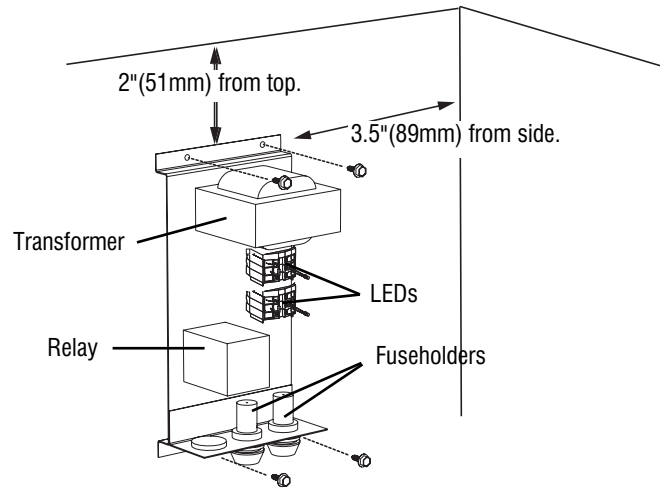

Fig. 4 Install control hat section.
This device is equipped with an LED status indicator. LED is on when UV light is on. (Refer to Fig. 4 for details.)
1. Mount control hat section in the upper right corner of the electrical compartment using included mounting screws. (Fig. 4)